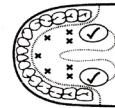

Figure 2
- a) **Oral Use:** Place thermometer under tongue as indicated by " ✓ " position shown in Figure 2. Close your mouth and breathe evenly through the nose to prevent the measurement from being influenced by inhaled/exhaled air. Normal temperature between 35.7°C and 37.3°C (96.3°F and 99.1°F).